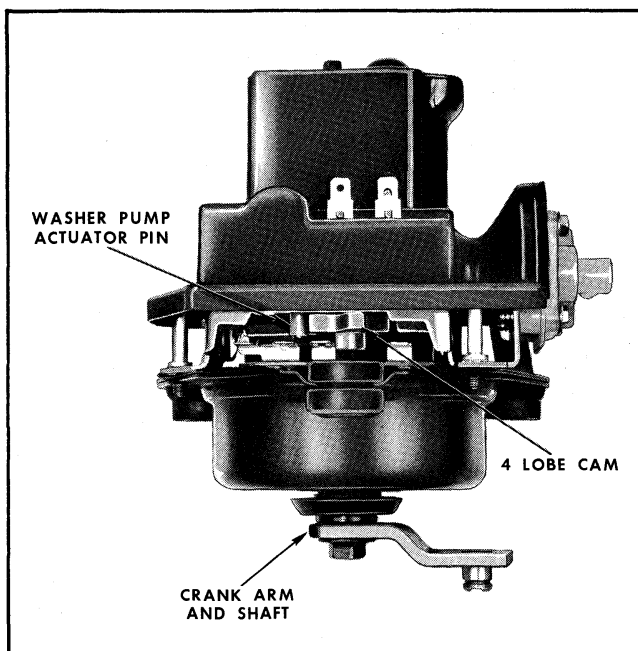

Fig. 11-103 Washer Pump Drive System
- When the washer pump is mounted on the wiper correctly, a pin on the lower side of the pump engages with a 4 lobe cam (Fig. 11-103). The pin is part of a spring loaded plate and ratchet pawl assembly and acts as a cam follower. Thus, with the wiper running, the pin actuates the plate and ratchet pawl assembly back and forth in a horizontal plane. Another pin, attached to the upper side of the plate and ratchet pawl assembly, extends through a slot in the bellows plunger arm. This pin moves freely back and forth in the slot while the pumping mechanism is in the "lock-out" position and no pumping action occurs.